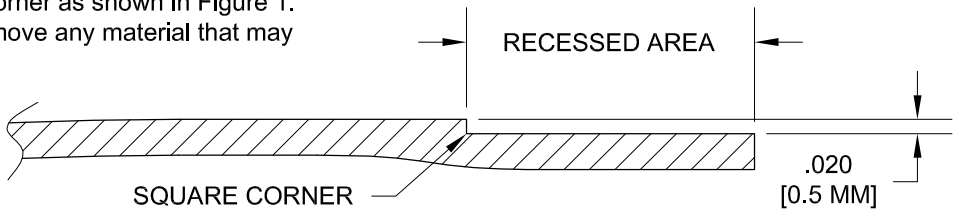

FIGURE 1:
Step 1: Ensure that the molded recessed area on both of the tip fairings has a square corner as shown in Figure 1. Use a razor blade or file to remove any material that may have been left from the mold.